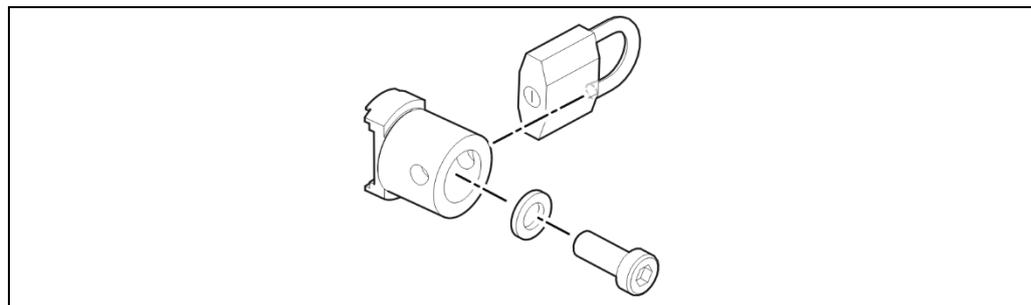

Fig. 9 Locking tool set (Mat. No. 73883)
4. Secure the rotatable cylinder in the new position using fixing screws or the locking tool set (Fig. 9) with padlock.
1. Remove the fixing screws or the locking tool (Fig. 9).